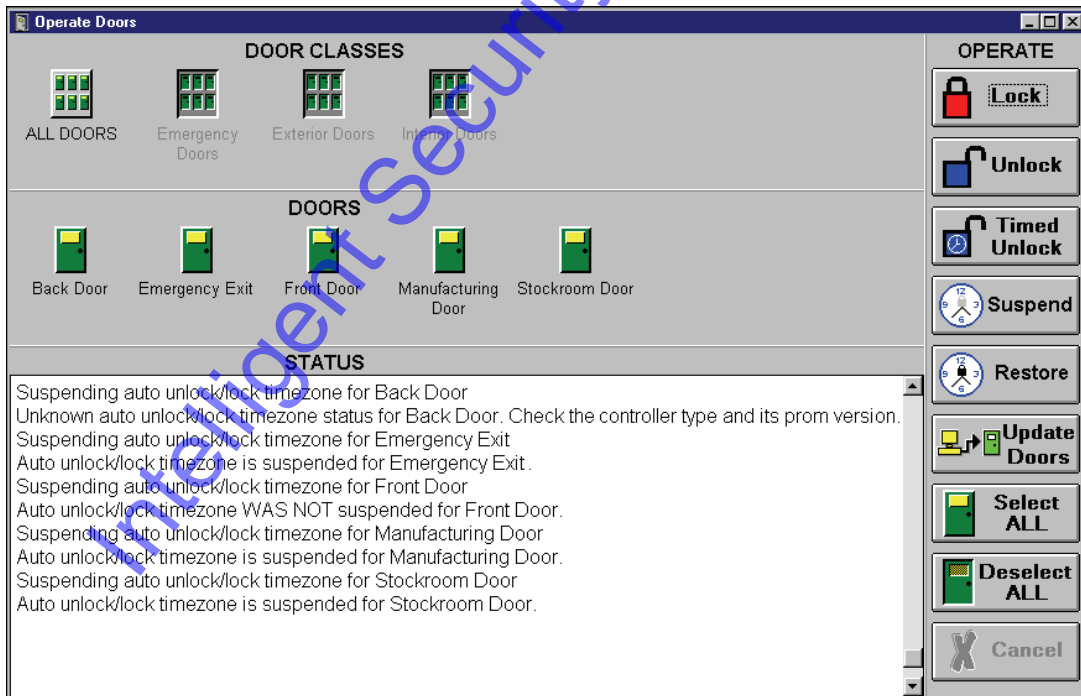

Figure 6-12: Suspending Auto Unlock/Lock on All Doors
4. To proceed with the Suspension, click on the  button. The resulting window should look similar to Figure 6-12.